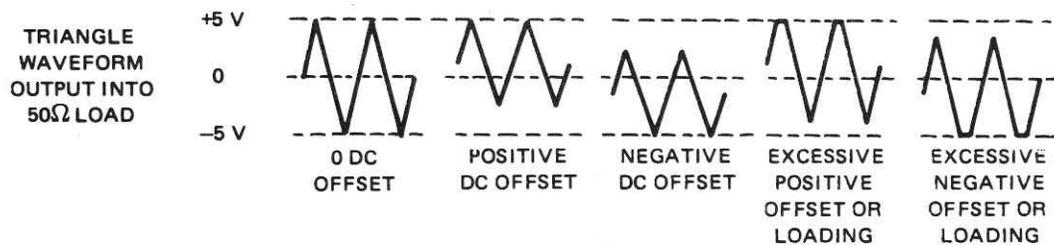

Figure 2-6. DC OFFSET Control
- Select the desired polarity of dc offset and the amount of offset using the DC OFFSET control. Offset voltage plus peak voltage cannot exceed the voltage range limit, ±5 volts in the 0 dB range. If an excessive amount of dc offset is used, waveform clipping may be observed (see Figure 2-6). Both signal and offset are attenuated by the attenuator.